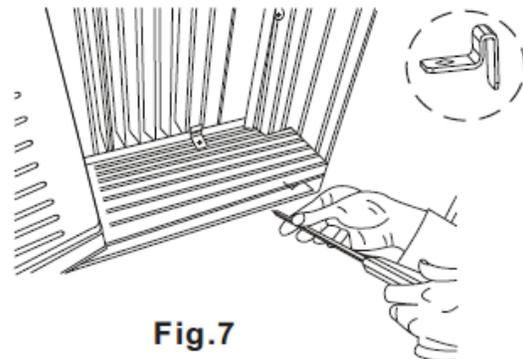

Fig.7
A. Place the frame lock between the frame extensions and the window sill as shown (Fig.7). Drive 3/4" (19mm) or 1/2" (12.7mm) locking screws through the frame lock and into the sill.